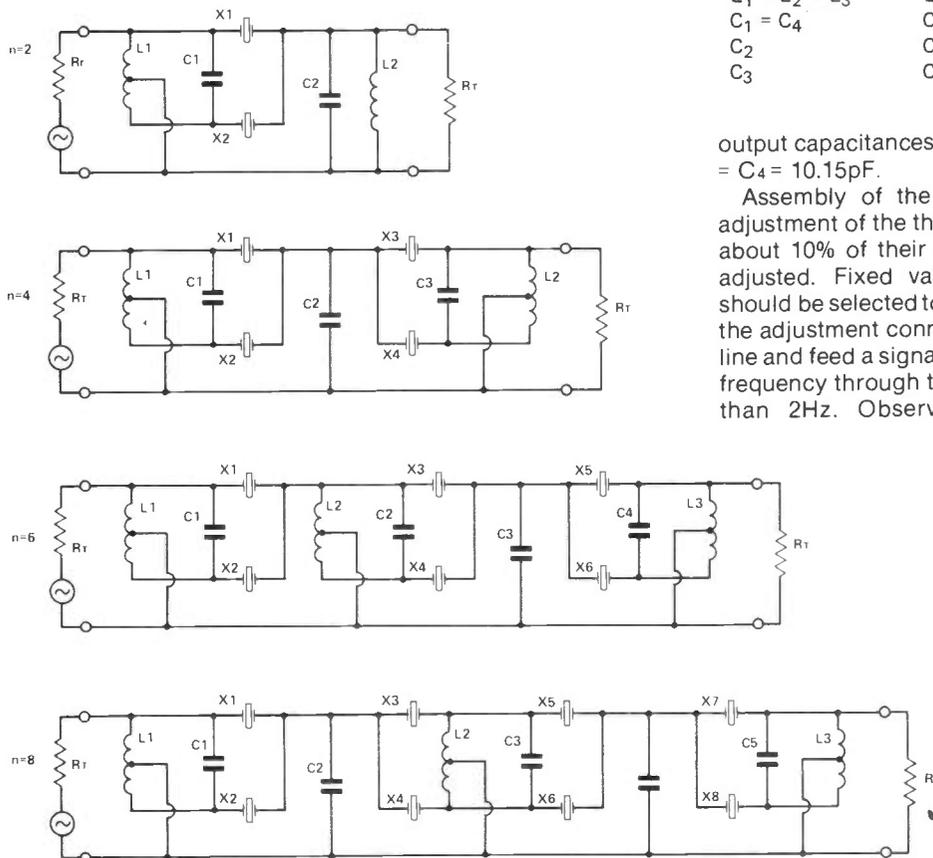

Figure 10: Circuit diagrams for crystal filters.
5. Substitute these values, together with  $F_0$ ,  $B$ ,  $L$  and  $C_0$  into the formulae given in **Fig. 9** from which all the component values will be calculated. Often at this point the values of  $L$  and  $C_0$  are unknown as the design parameters of the crystals are not available. Fortunately, however, as you can see from the calculations to obtain the crystal frequencies  $L$  and  $C_0$  are not required. Once the crystals are available and their inductance and static capacitance known the calculations can be completed and the circuits built as shown in **Fig. 10** and tested.
capacitance is convenient and is calculated as a straight forward parallel RC to series RC impedance transformation. In practice it is necessary to add the termination stray capacitance as shown in **Fig. 10**.